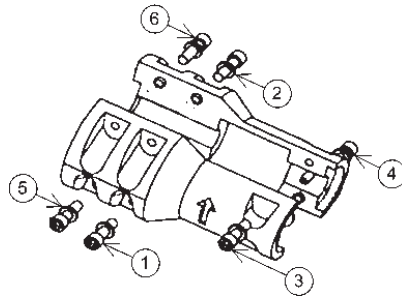

Figure 5: Coupling Torque Pattern
8. Very lightly tighten the remaining (4) socket head screws on the coupling. Tighten the coupling evenly; ensure that the coupling is symmetrical on both the pump and motor shafts. Do NOT torque the cap screws in this step.
9. Torque the socket head cap screws on the coupling. Refer to Figure 5 for the proper torque pattern. See the “Engineering Data” section on page 8 of this manual for the proper torque value.